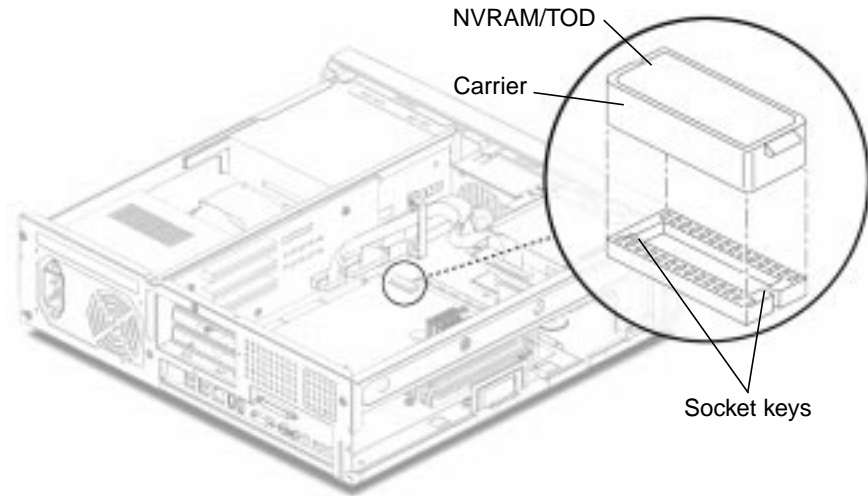

FIGURE 8-3 Removing and Replacing the NVRAM/TOD
3. **Locate the NVRAM/TOD and carrier on the motherboard (FIGURE 8-3).**
1. Replace the NVRAM/TOD as follows (FIGURE 8-3):